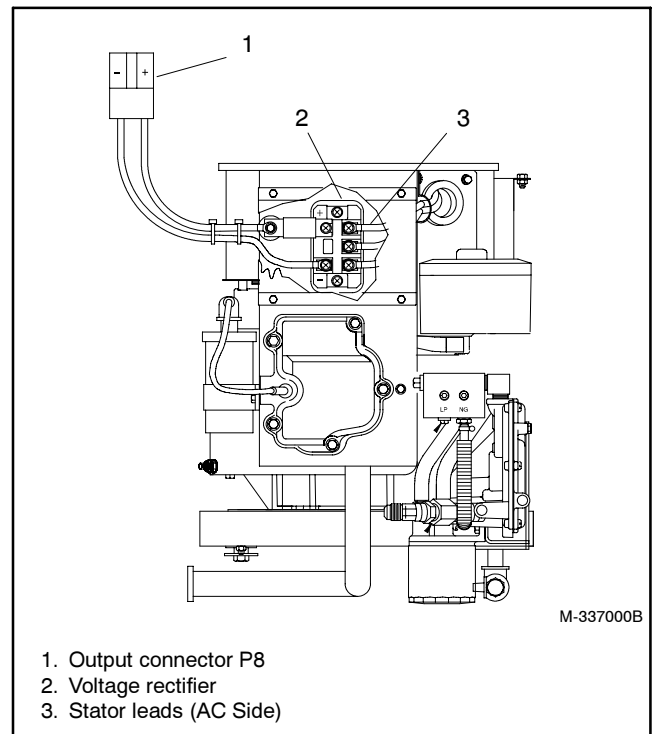

Figure 5-27 Stator Lead Connections to Rectifier
3. Disconnect output connector P8 from the load. See Figure 5-27.
4. Disconnect the stator leads from the voltage rectifier. See Figure 5-27.